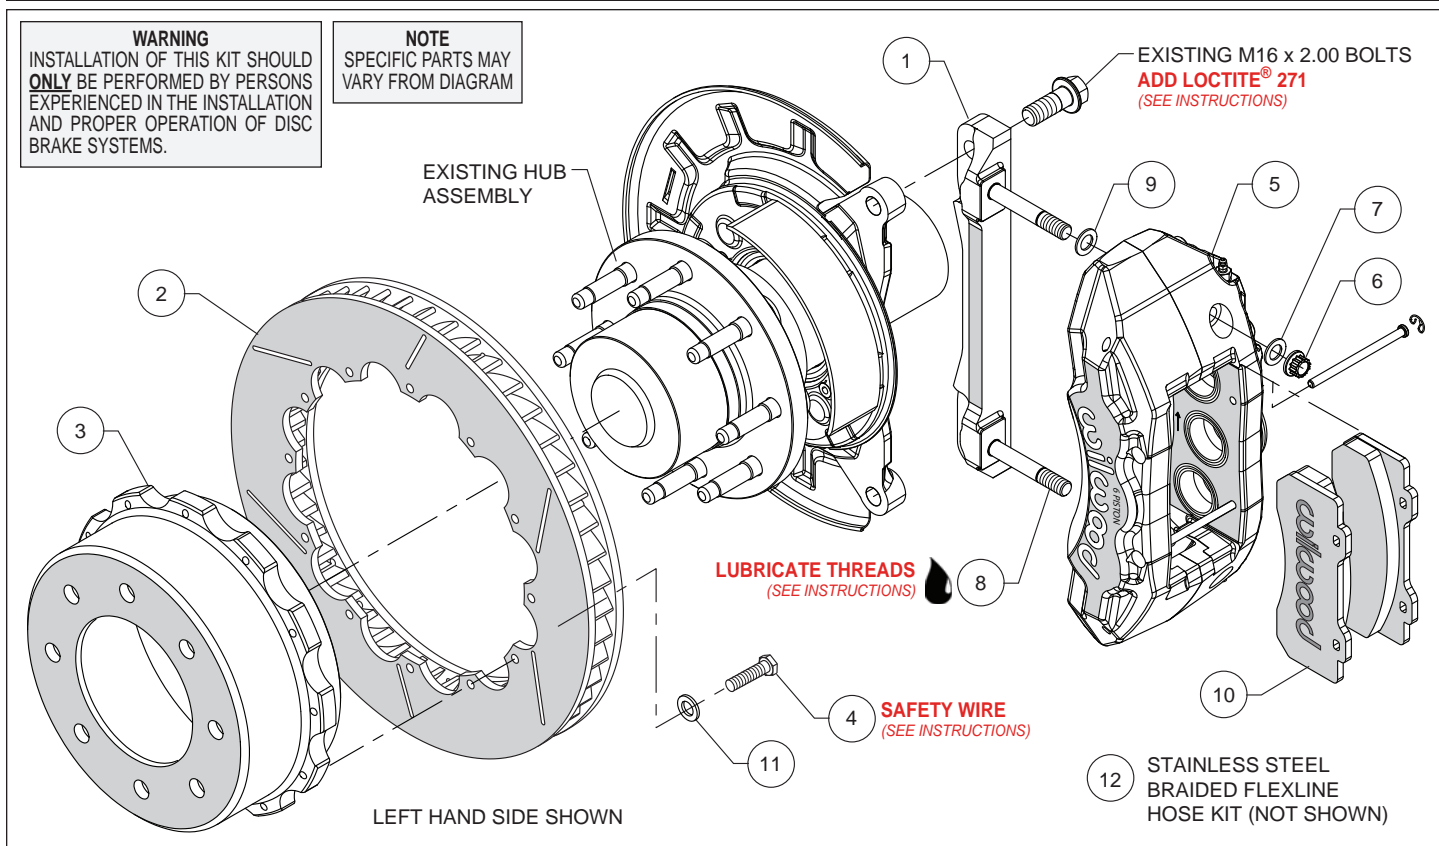
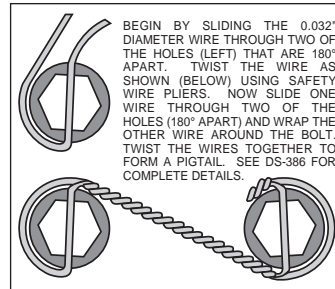

Figure 1. Typical Installation Configuration
Figure 3. Safety Wire Diagram
Assembly Instructions (numbers in parenthesis refer to the parts list and Figure 1 on the preceding pages):
- The caliper mount bracket (1) should initially be installed with clean, dry threads on the mounting bolts. Orient the bracket as shown in Figure 1 and Photo 1, and install using saved OE bolts. Temporarily tighten the mounting bolts. **NOTE:** *The bracket must fit squarely against the mount bosses on the upright.* Inspect for interference from casting irregularities, machining ridges, burrs, etc. Remove the mounting bolts one at a time and apply red *Loctite*® 271 to the threads and torque to manufacturer's specifications.
- Orient the rotor (2) and the hat (3) as shown in Figure 1 and Photo 2. Attach rotor to hat using bolts (4) and washers (11). Using an alternating sequence, torque to 25 ft-lbs. The bolts must be safety wired using standard 0.032 inch diameter stainless steel safety wire as shown in Figure 3. Please refer to Wilwood's data sheet DS-386 (available at www.wilwood.com/Pdf/DataSheets/ds386.pdf) for complete safety wire installation instructions.
- NOTE:** *This kit contains distinct right and left hand calipers that must be mounted in a specific direction, as described below.* Lubricate the caliper mounting studs (8) with lightweight oil. Initially place one .032" thick shim (9) on each stud as shown in Figure 1 and Photo 3. Mount the caliper (5) onto the bracket (1) using lock nuts (6) and washers (7), Figure 1. Ensure that the caliper is mounted so that the largest pistons are at the rotor exit end of the caliper, in relation to the direction of rotor rotation. Temporarily tighten the lock nuts.